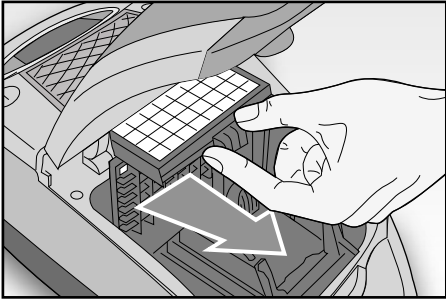

Fig. 11
- Take the filter out of its housing (FIG. 11) and shake it vigorously to clean it. If the filter is extremely soiled, wash it with lukewarm soapy water and leave it to dry. NEVER use artificial means to dry the filter. To replace the filter, contact an Assistance Centre.